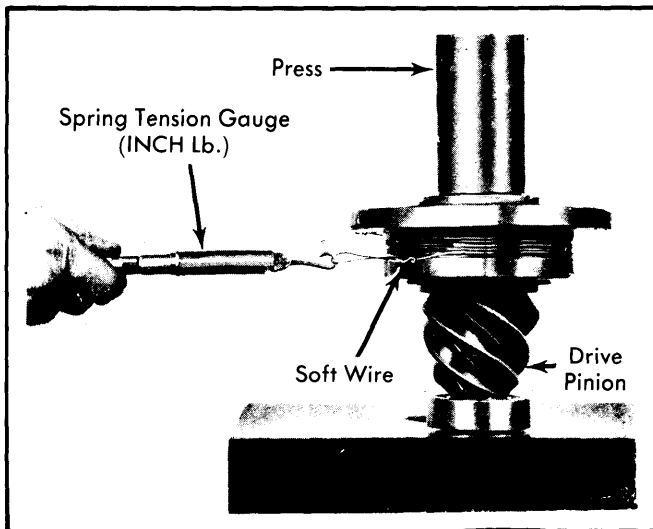

Fig. 3 Checking Drive Pinion Bearing Preload
3) Wrap a soft wire around cage and pull on wire with a pound scale. If pinion bearing cage diameter is 6", then pulling radius is 3". If INCH pound scale reads a 5 INCH lb. pull, then preload would be 15 INCH lbs. Always use rotating torque, not starting torque. Use a thinner spacer to increase preload and a thicker spacer to decrease preload. Specified preload is 5 to 15 INCH lbs. If old bearings are reinstalled, preload should be near low limit. If new bearings are installed, preload should be near high limit. See Fig. 3.